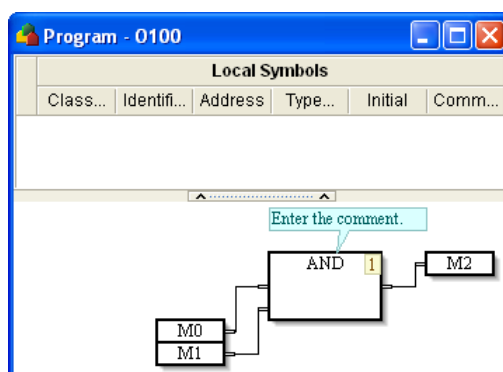

Figure 12-46 Comment binding with an object
- (3) The position of the comment varies with the movement of the object. When the users move the object, the comment moves, as shown in figure 12-46.